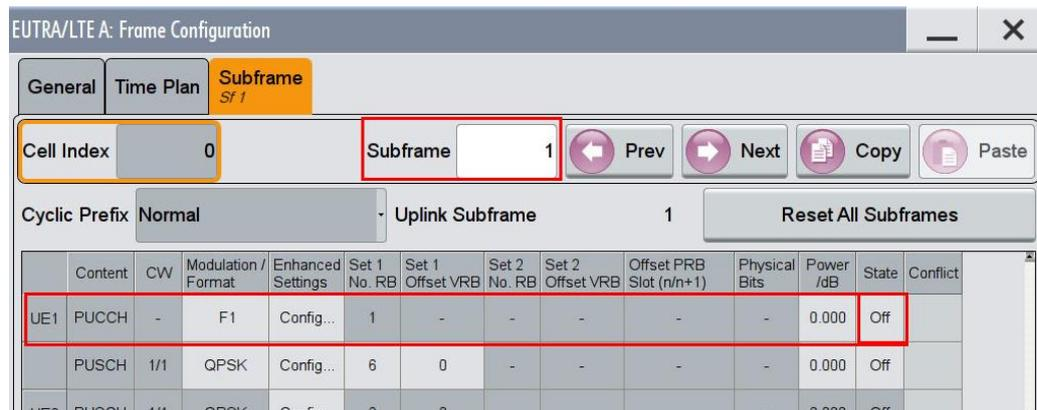

Fig. 3-160: In the second configurable subframe (subframe #1) the PUCCH is not transmitted (state Off)
- Make sure that the PUCCH in the second configurable subframe is not transmitted. (example: subframe 1 **State Off**) (Fig. 3-160)